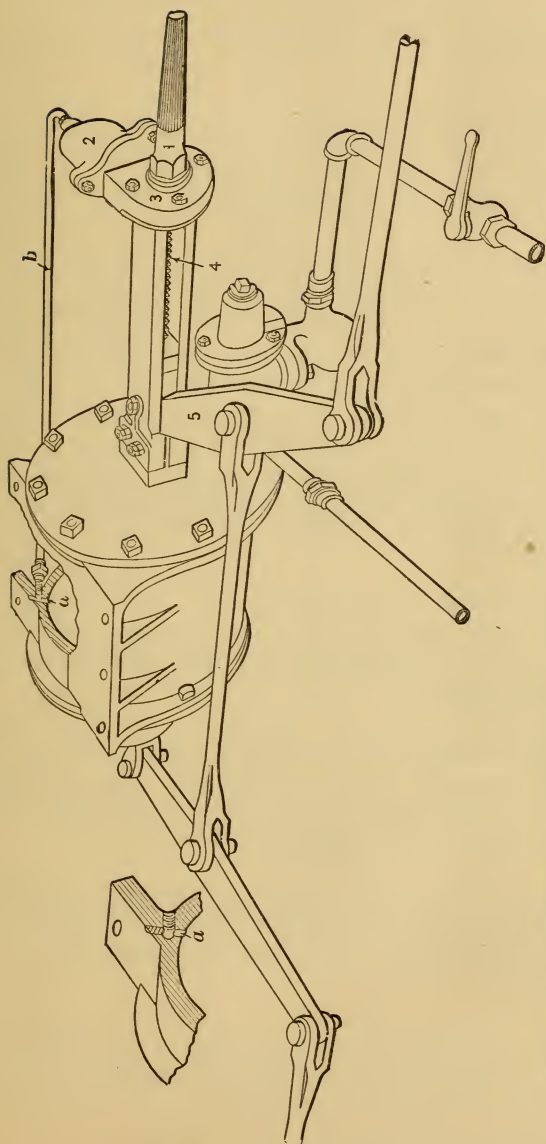
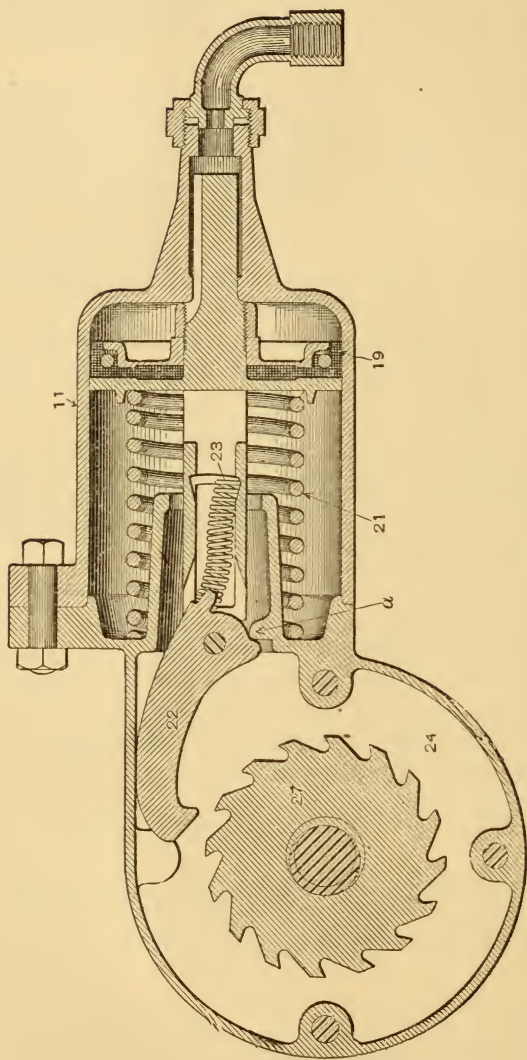
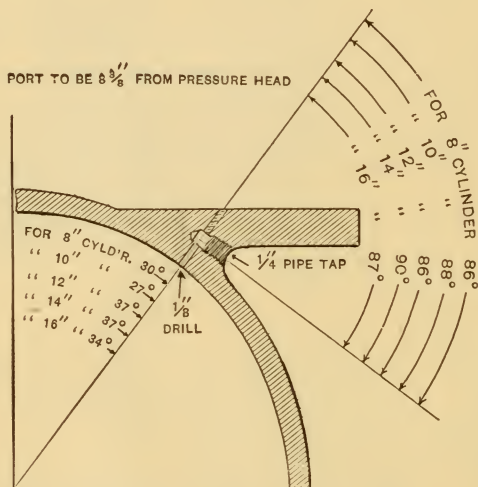

FIG. 12.—SHOWING APPLICATION OF AMERICAN BRAKE SLACK ADJUSTER TO A PASSENGER CAR EQUIPMENT.
FIG. 13.—SECTIONAL END VIEW OF AMERICAN AUTOMATIC BRAKE SLACK ADJUSTER.
FIG. 14. — SHOWING PROPER METHOD OF DRILLING BRAKE CYLINDERS WHEN USED WITH THE AMERICAN AUTOMATIC BRAKE SLACK ADJUSTER.
Q. Name the different parts of the American Brake Slack Adjuster shown in Fig. 13?
Q. Name the parts shown in Fig. 12?
*Q. What is the object of the lug *a* (Fig. 13)?*
A. As illustrated in Fig. 13, its object is to lift the pawl out of the ratchet nut (27) when the adjuster piston is in release position. In the position shown the ratchet nut can be turned by hand to take up or let out slack when necessary, as when applying new brake shoes.
A. In Fig. 13 it is shown in the normal or release position. If there is sufficient slack in the brake rigging, so that the piston in the large cylinder (Fig. 12) uncovers port *a* when the brake is applied, cylinder pressure will pass through port *a*, pipe *b*, and into cylinder 11 (Fig. 13). The piston will be forced out,
When the brake is released and the piston in the brake cylinder is forced to release position by the release spring, port *a* is connected with the non-pressure end of the cylinder, hence the air in the slack adjuster cylinder passes through pipe *b* (Fig. 12), port *a*, and out to the atmosphere through the non-pressure head.
When the air is released from the slack adjuster cylinder the piston spring 21 forces the piston back and it in turn, through the pawl, turns the ratchet nut which draws the screw away from the cylinder. Lever 5 (Fig. 12) is fastened to a crosshead attached to the adjuster screw, hence the lever is moved correspondingly, the effect of which is to draw all the brake shoes nearer to the wheels.
Q. How many teeth does the pawl skip at each movement of the adjuster piston throughout its stroke, and what movement of the crosshead attached to lever 5 (Fig. 12) result?
Q. If the adjuster nut 1 (Fig. 12) is moved one turn, how far will the crosshead attached to the lever 5 be moved?
A. The location of port *a* in the brake cylinder (Fig. 12). It is usually located to obtain an eight-inch "running" travel.
A. By turning the ratchet nut 1 (Fig. 12) to the left.
A. Drill port *a* so that brake cylinder pressure can reach pipe *b* after the cylinder piston has travelled eight inches and erect the parts and piping as shown in Fig. 12, pipe *b* to be copper. The upright part of port *a* (Fig. 14) is drilled with a $\frac{1}{8}$ -inch drill and the upper portion plugged; the part of the port into which pipe *b* connects is drilled and tapped for $\frac{1}{4}$ -inch pipe. After erecting, test joints with soap suds. Next put on a new set of brake shoes and adjust the piston travel by means of the dead levers, from six to six and one-half inches.
A. The adjuster is so designed that the crosshead, when at the end of its stroke, is drawn against a set screw next to the cylinder casing 3 (Fig. 12), but not shown in the cut. Removing this set screw permits of a further movement of the crosshead and the usual operation takes place, allowing the pawl to be disengaged. The adjuster nut may then be turned by hand, thus moving the crosshead nearer the large cylinder for the purpose of giving sufficient slack to permit of the application of new brake shoes. The set screw should always be replaced after the pawl has been liberated and the crosshead moved back.